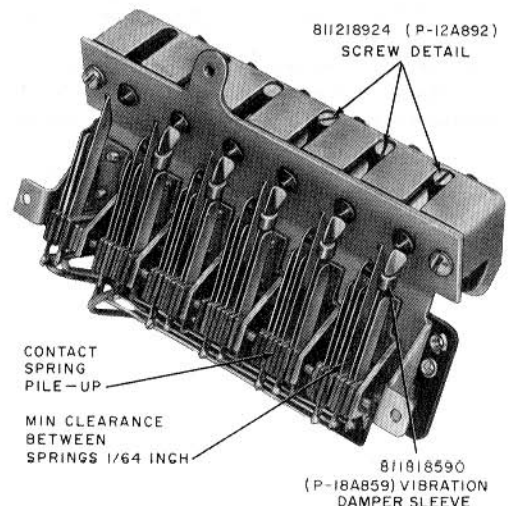

Fig. 14—589-Type Key, Bottom View
- Replacing loose or missing damper studs with 811818590 (P-18A859) vibration damper sleeves (Fig. 14). Later 589-type keys do not require this vibration damper.
3.15 Contact follow and separation is obtained by using a 363 tool at a point adjacent to contact spring pile-up (Fig. 14). When adjusting springs:
- There should be a minimum spring clearance of 1/64-inch between contact springs and those parts of the key which do not make contact with springs (Fig. 14).